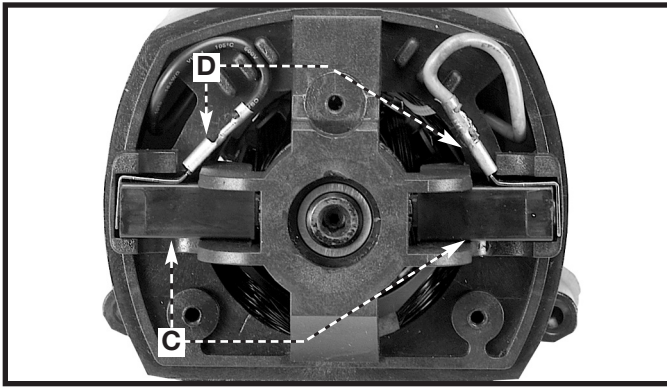

Fig. 55
2. The brushes are located in two holders (C) Fig. 55. Remove the spade type terminal connectors (D) and pull the brush holders (C) out.